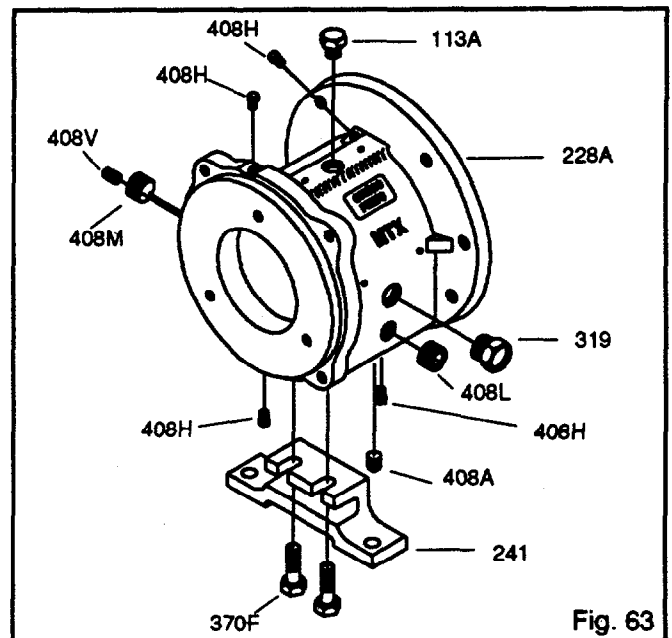

Fig. 63
1. Install oil fill plug (113A), oil drain plug (408A), sight window (319), sight oiler plug (408J), 4 oil mist connection plugs (408H) or grease fittings (193) and relief plugs (113), and oil cooler inlet and outlet plugs (408L, 408M) in bearing frame (228) (Fig. 63).
2. Attach bearing frame foot (241) with bolts (370F). Hand tighten.